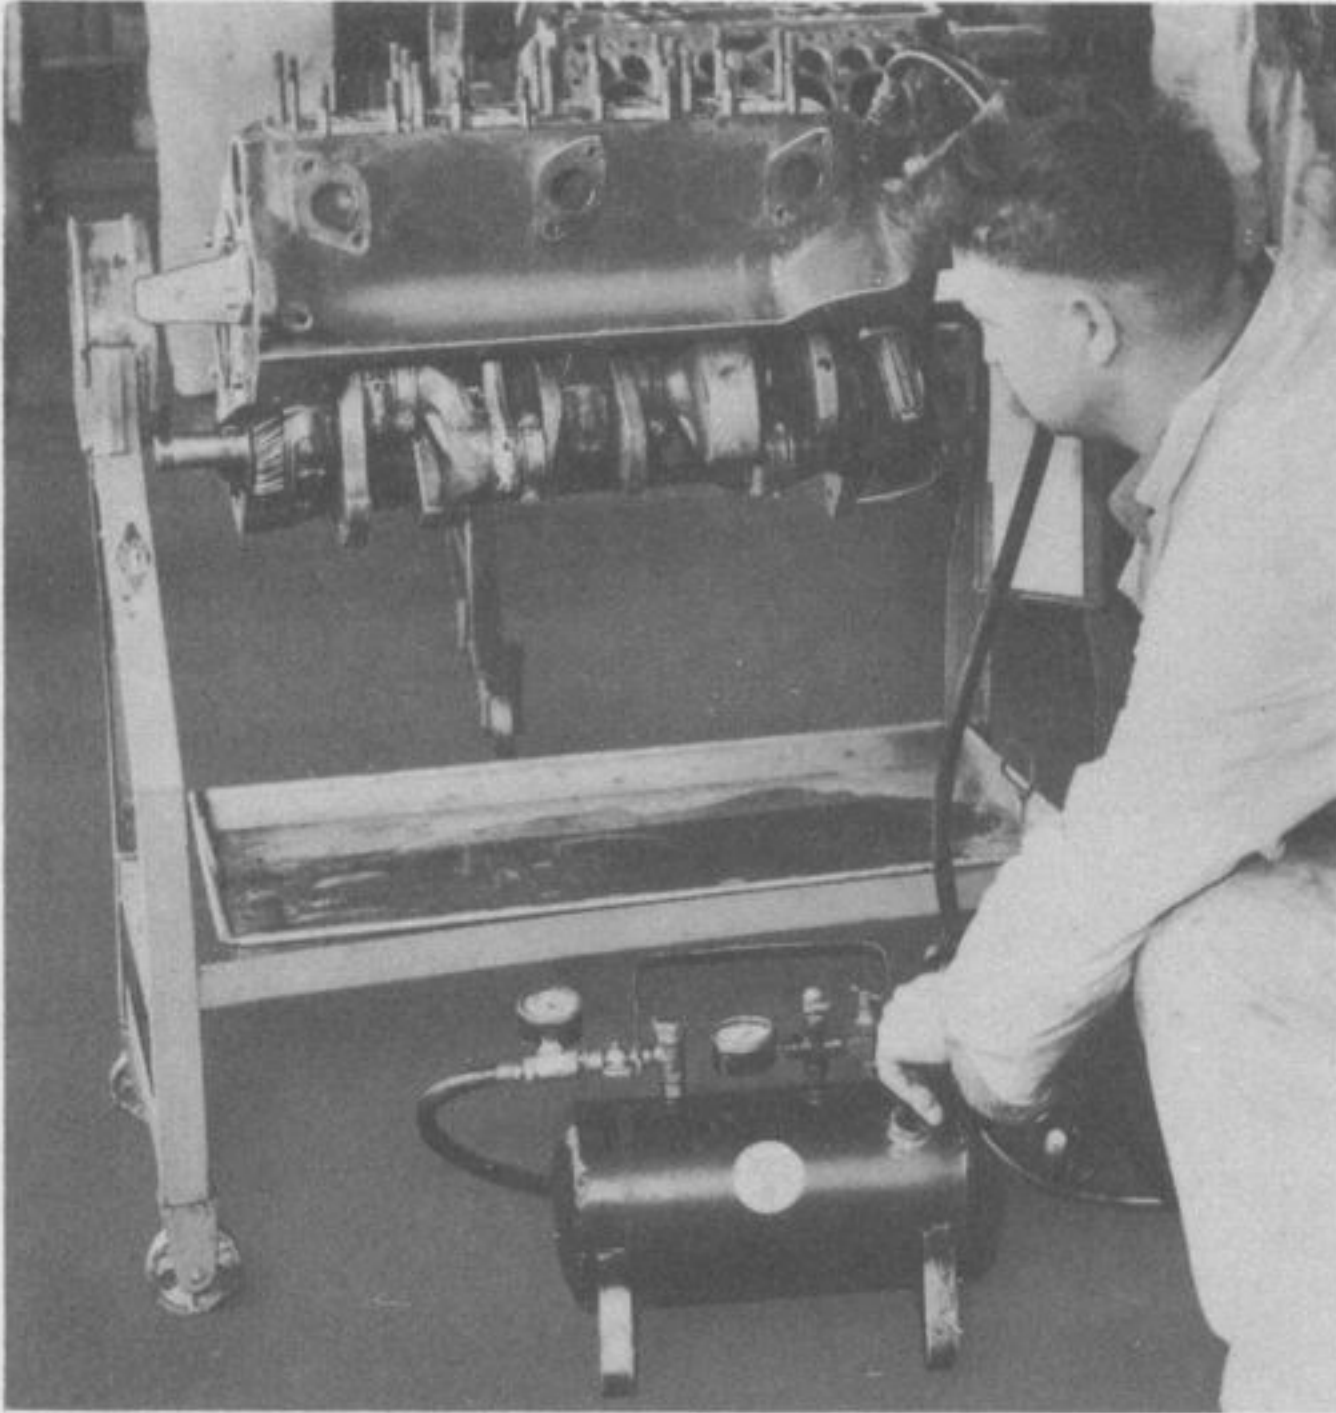

Figure 33—Oil Leak Tester
18. OIL LEAK TESTER. (Fig. 33).